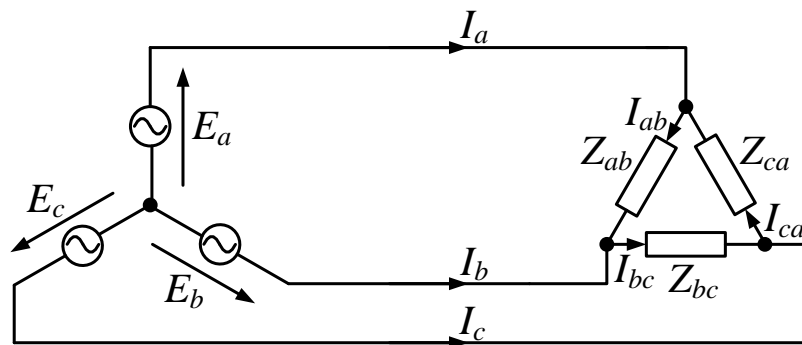

Figure A1
- (i) Where the extra energy comes from to meet demand in the seconds immediately following the fault; (2)
- (ii) Why a large increase in the amount of wind and solar sources in the network makes this more difficult. (2)
- Explain the process that the operator needs to follow to start the system from rest, connect to the 18 kV network, and control the power and power factor supplied to the network. (6)
- c) In a house wiring system, should the fuses be placed in the live, the neutral, or both wires? Give reasons for your answer. (3)
- d) Why do birds sitting on a high voltage power line not receive an electric shock? (1)
- e) In Figure A1, the three phase, delta-connected load is supplied from a balanced, star connected supply where the phase voltages E_a , E_b and E_c are 230 V.
- (i) If $Z_{ab} = Z_{bc} = Z_{ca} = 8 + j6 \Omega$, calculate the magnitude of the line currents I_a , I_b and I_c . (4)
- (ii) Calculate the total active power dissipated in the load. (2)